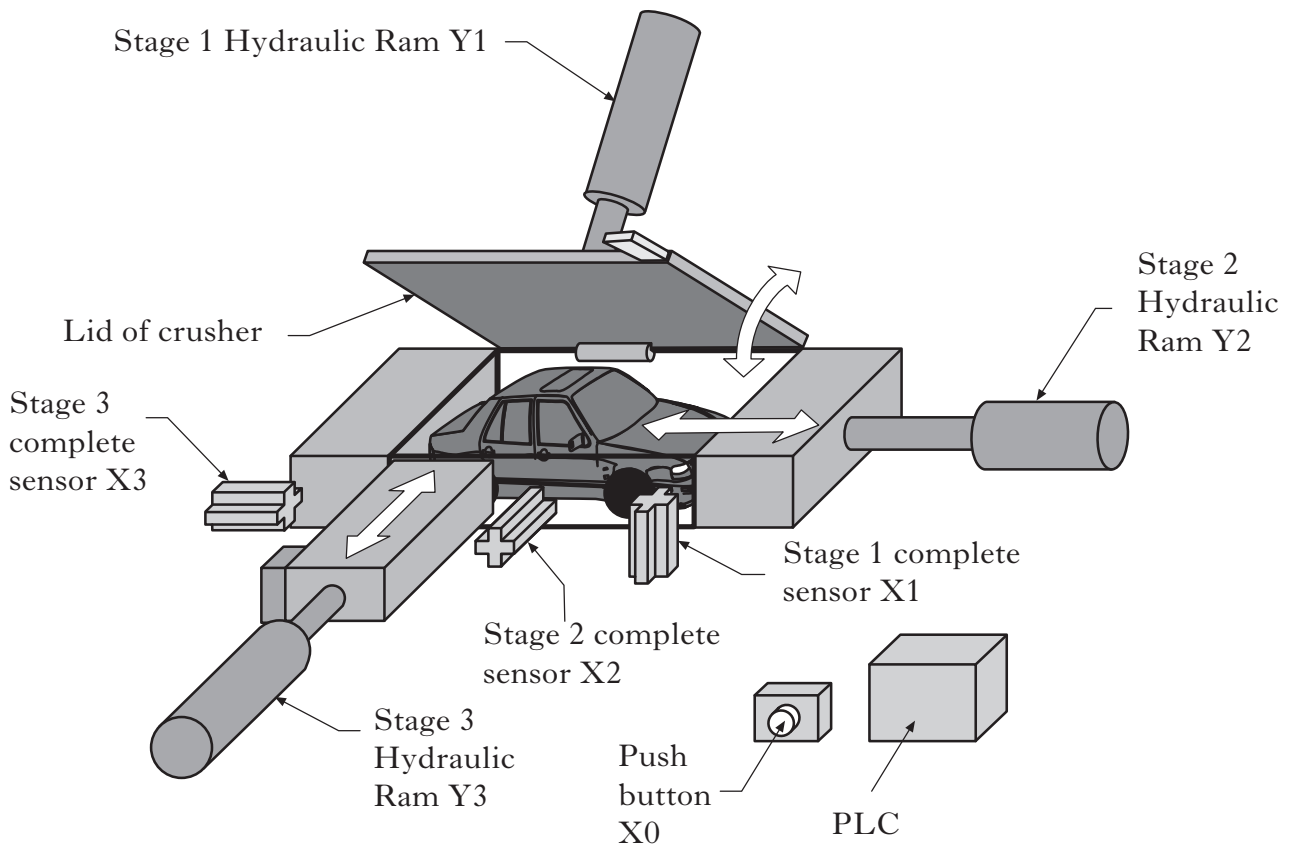

Figure Q13
13. Figure Q13 shows a simplified PLC controlled industrial car crusher.